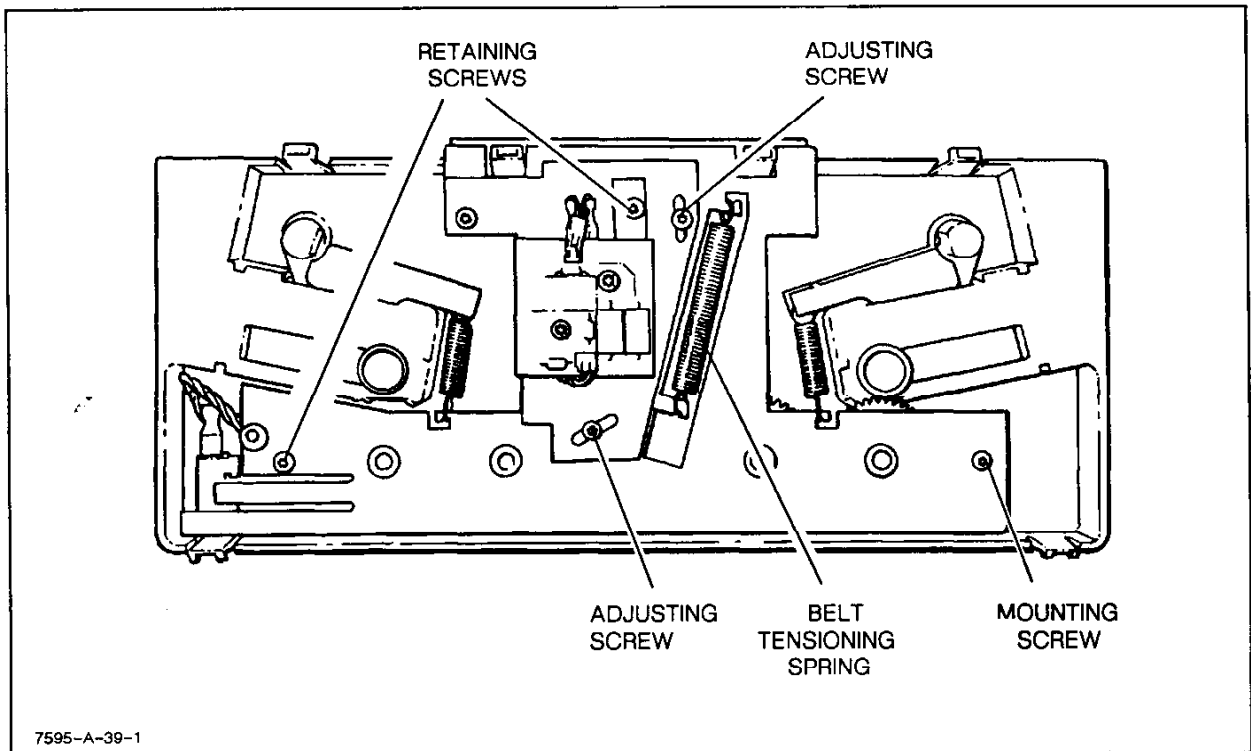

Figure 6-39. Roll-Feed Module Retaining Screws
- g. To disassemble the right side module, remove the retaining screws (Torx #15) from the gear cover. See Figure 6-39.
- a. Remove the motor belt tensioning spring. See Figure 6-39.